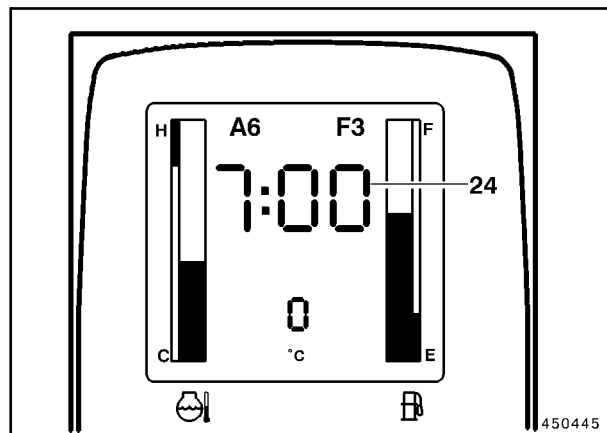
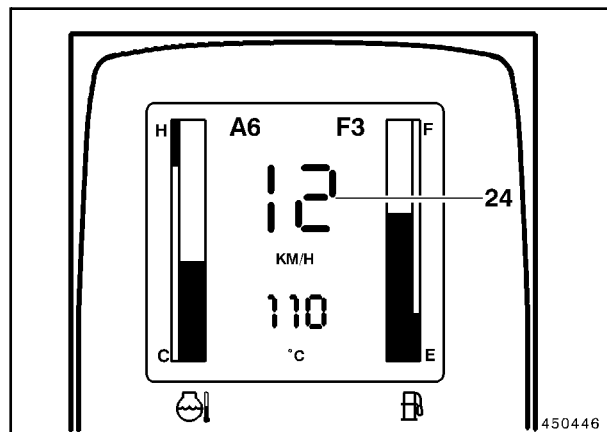

Fig. 16
Fig. 17
When the machine is in motion, the display (24) changes from time display (Fig. 16) to speed display (Fig. 17).